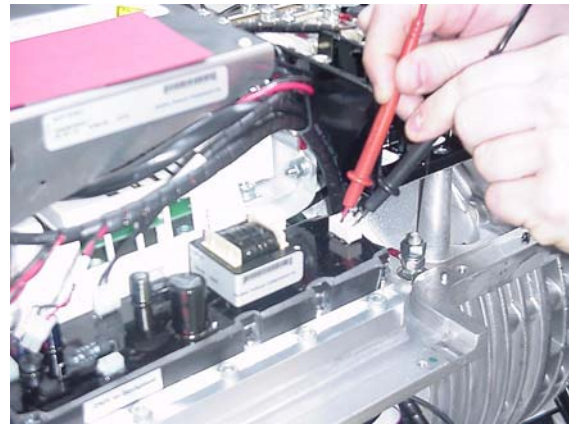

Figure 4-45 Measuring the DC-DC Converter Input Resistance at the DC Input
5. Place the meter probes in the terminal of the DC input; see Figure 4-45. Record the measured resistance. Reverse the probes on the terminals. Both measured resistances should be $> 1.3k\Omega$, but not infinity.